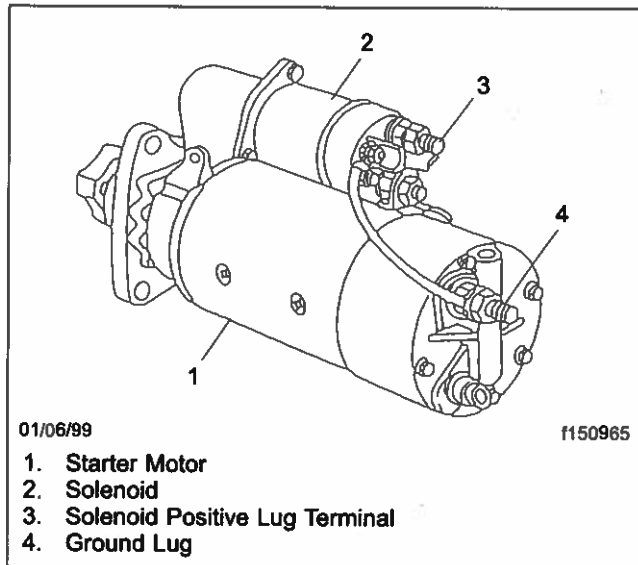

Fig. 13.1, Delco Remy 42-MT Starter
3. Connect one end of the second jumper cable to the negative terminal of the booster battery and connect the other end to the negative jump-start post or the starter ground lug. The starter ground lug (Fig. 13.1) is the best location. Do not use the frame rail or the engine block as a ground.